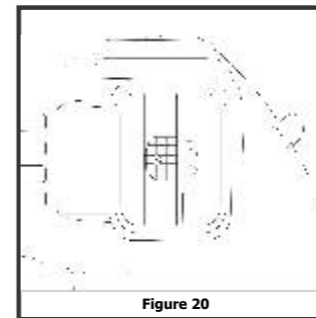

Figure 20
- a) Remove the spark retention grate fixation screw (Figure 20), using the screwdriver (supplied in the Service Kit);